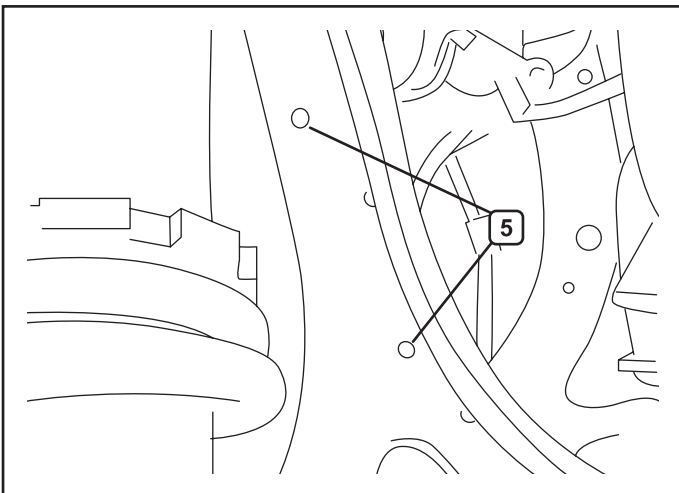

Figure 9.
Suggested Contactor Location: Use holes (5) on the passenger side just behind the radiator. See figure 9.